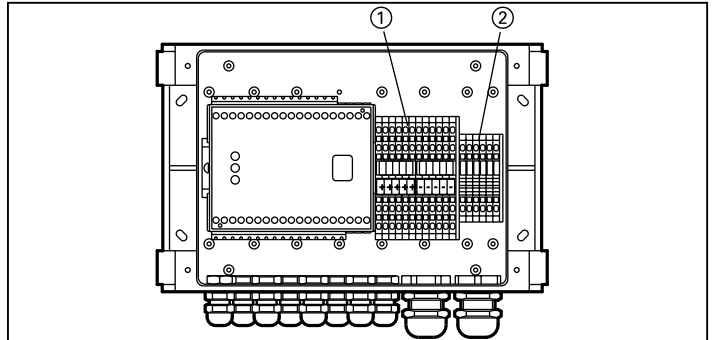

Fig. 5-1: Terminal blocks of the IP 65 housing
**Note** In the case of the IP 65 housing, the terminal blocks in the housing should be used for wiring the photoelectric safety switches and muting sensors in the way shown in Fig. 5-1.